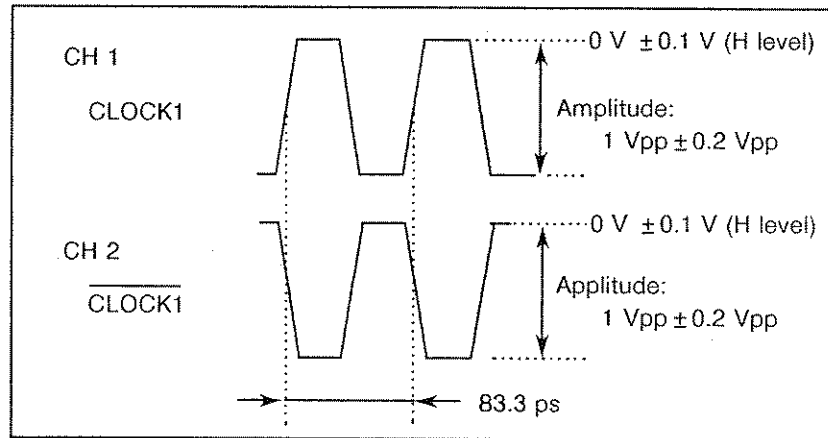

Figure 8-9 CLOCK1,  $\overline{\text{CLOCK1}}$  Output Waveform (TO 0V,  $f = 12000 \text{ MHz}$ )
- (7) Confirm that the waveform is a rectangular wave as shown in Figure 8-9.